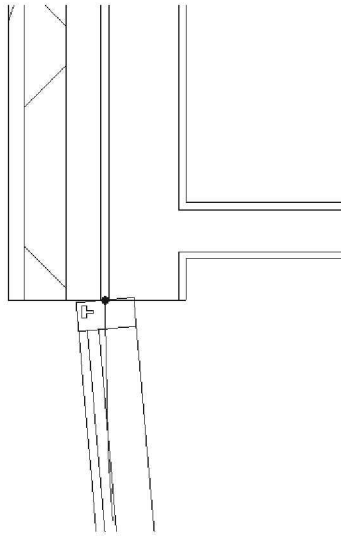

FIGURE 5-4.33
46. Click and drag the grip down and snap to the endpoint of the vertical wall (Figure 5-4.33)